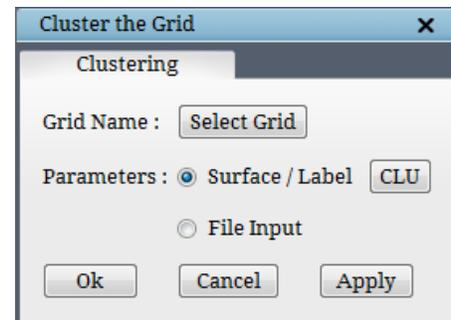

Figure 5.39: Clustering dialog box
If clicked on the **Clustering** button, a dialog box opens in the pop\_up section as shown in Figure 5.39. Grid Name will have the list of grid file names which are loaded into the UI. If the UI has only one grid, then it automatically reads the same. The clustering parameters can be provided in two ways.
**Precision** defines the number of digits to be written for each coordinate. Single represents 8 digits and double represents 16. Once the parameters are set, click on ‘*set parameters*’ button at the bottom and click ‘*Apply*’ in the main dialog box as in Figure 5.39.
The parameters can also be imported into the table from a fra file or text file using the Import values drop down. It can also be imported by selecting the ‘**File Input**’ option in the Clustering dialog box as in Figure 5.39.